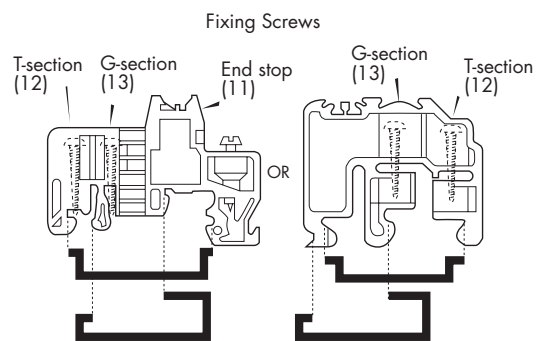

Figure 4.5: Mounting end stops onto DIN rail
- i) For backplanes that are mounted in a vertical orientation, attach one end stop (11) to the lower end of each DIN-rail supporting a column of backplanes by clipping the stops into place and tightening the appropriate screw [(12) for T-section and (13) for G-section DIN-rails] (Figure 4.5).